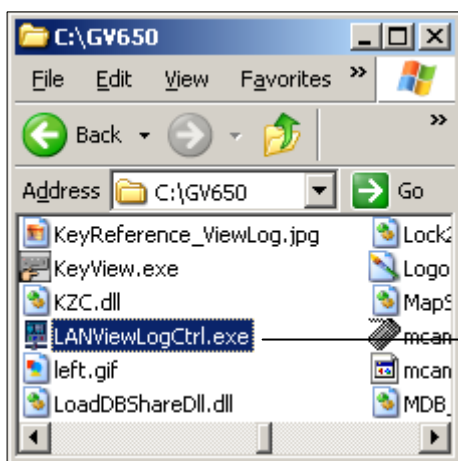

Figure 4-39-1
2. To download LAN ViewLog, locate **LANViewLogCtrl.exe** from the system folder (Figure 4-39-1), and copy and paste this program to your local computer.